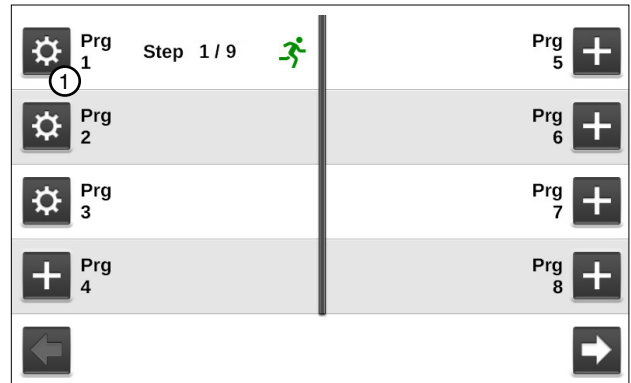

Figure 101-1 Step Programs Screen
2. Push the **Settings** button (gear icon) corresponding to the program number. Refer to Figure 101-1.